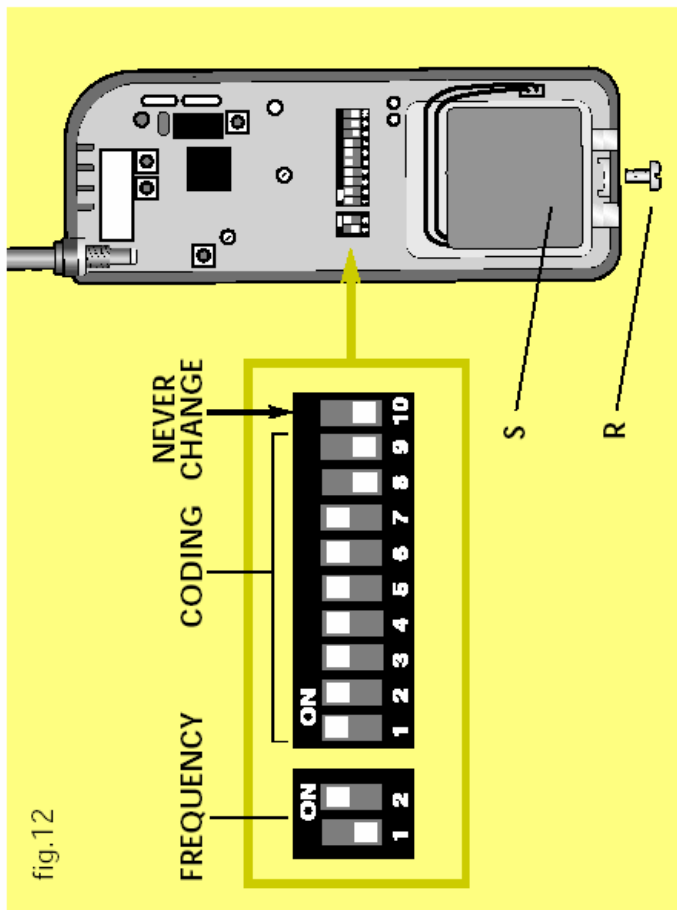

fig.12
1. Handset (fig. 12) :
- **Handset A** : unscrew the screw (R) downside the cover between charging contacts and remove the backside cover. **Withdraw and disconnect the battery (S)**. Change the position of one of the dip switch 9 mini jumpers (use a fine point in order to move). **Never move the position of mini-jumper number 10 (fig. 12) (OFF position)**
- **Handset B** : unscrew the screw (R) downside the cover between charging contacts and remove the backside cover. **Withdraw and disconnect the battery (S)**. Change the position of one of the dip switch 9 mini jumpers (use a fine point in order to move). **Mini-jumper number 10 : position ON**
- 2. Electronic control unit board (fig. 13) :** unscrew the 6 sided special screws and remove the cover. **Withdraw the 4 batteries**. Change the position of the dip-switch mini jumpers which must be the same as the one in the handset. **Never move the position of mini-jumper number 10 (fig. 12) (OFF position)**.